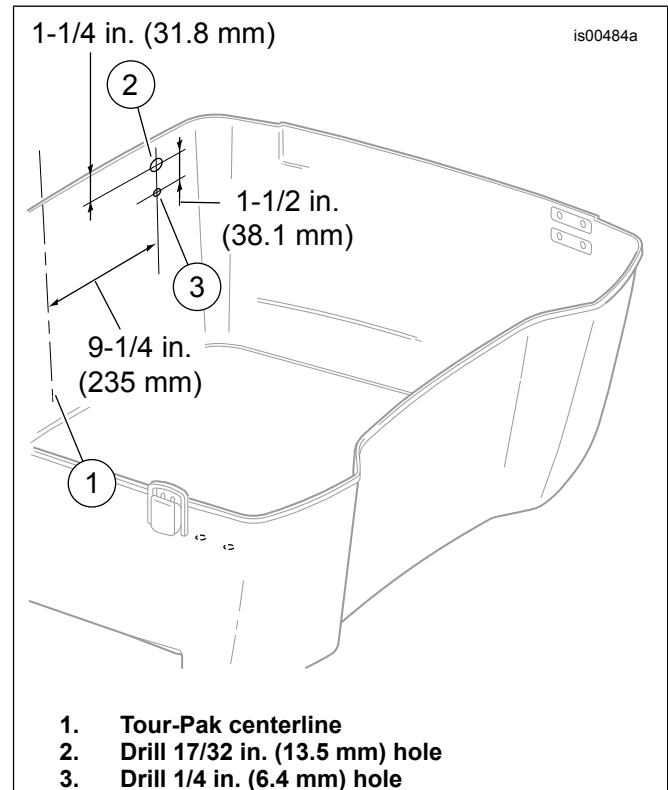

Figure 1. Tour-Pak AM/FM Antenna Drilling Location
4. See Figure 1. Measure and determine the center (1) of the outside rear Tour-Pak wall.
10. Measure down 1-1/4 in. (31.8 mm) from the top edge of the Tour-Pak on the left-side vertical line, and draw a short horizontal line (2) across the vertical line.
11. Measure down 1-1/2 in. (38.1 mm) from the **first** horizontal line, and draw another short horizontal line (3) across the vertical line.